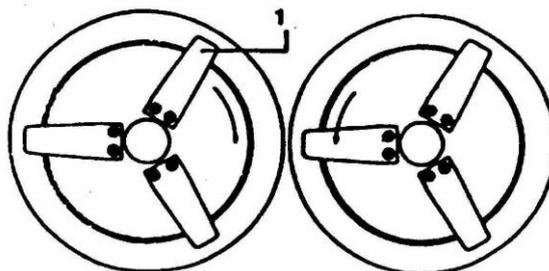

Fig. 9. Position of knife-holders.
- fasten the knife-holders 1. (Fig. 9.) in another place to let the cutting tool adhere to an unworn surface.